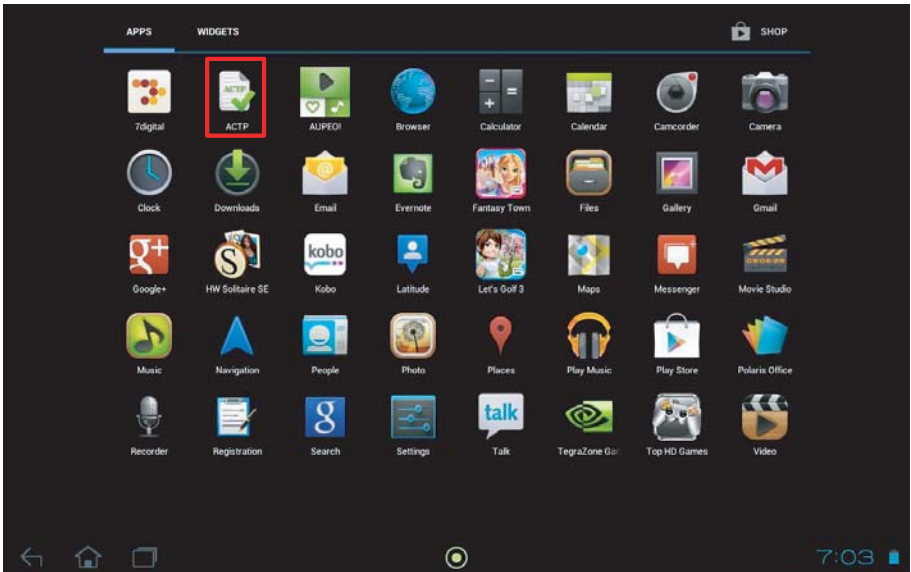

Figure 2-3. Device Applications Screen
8. Tap the **ACTP** icon to start the testing process. (Figure 2-3)